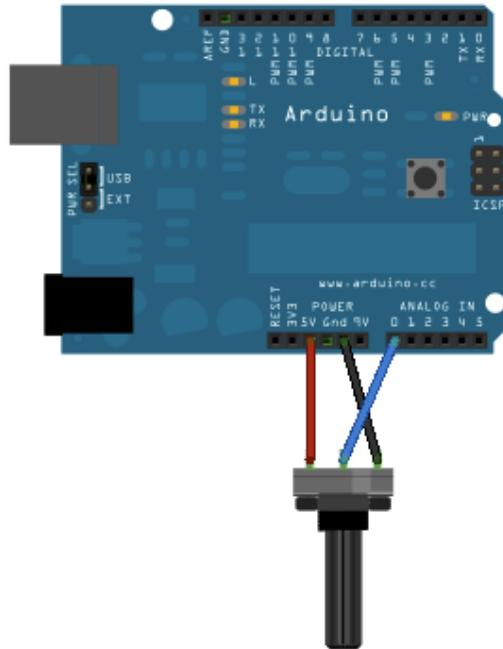

Figure 1.9: Using a potentiometer. Image credits: <https://www.arduino.cc/en/Tutorial/ReadAnalogVoltage>
**Task 1.5** Refer to Fig. 1.9, and proceed as follows: